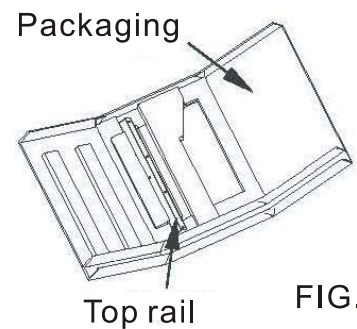

FIG. 1A
- 2 Remove the air conditioner from the carton and place on a flat surface. Remove the top rail from the bottom of the packaging material as shown in FIG. 1A